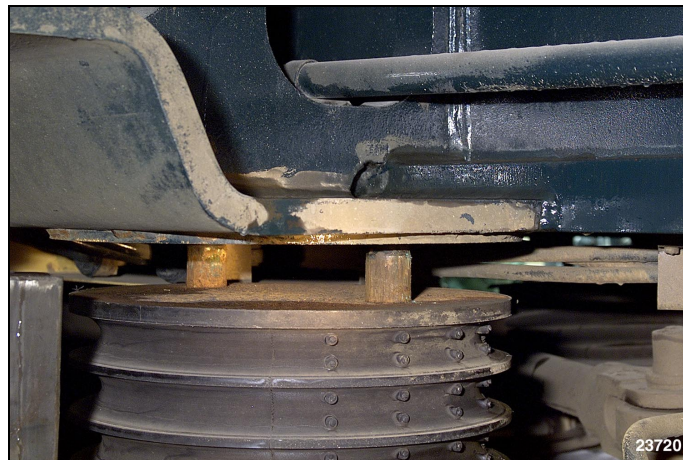

Figure 23 – Secondary Spring Pins (shown with unit lifted)
4. Apply penetrating lubricant to secondary spring pins; Figure 23, (HTSC type shown).